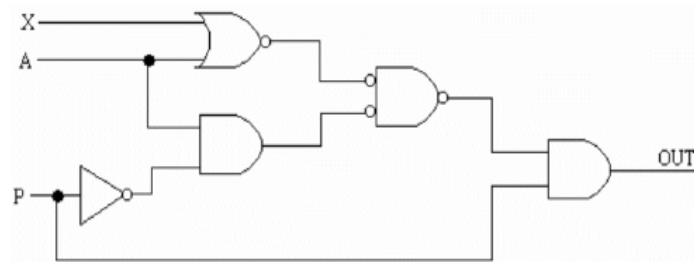

Fig. 2
2. Generate a Boolean expression for the circuit shown in Fig. 2 and reduce. (10 points)